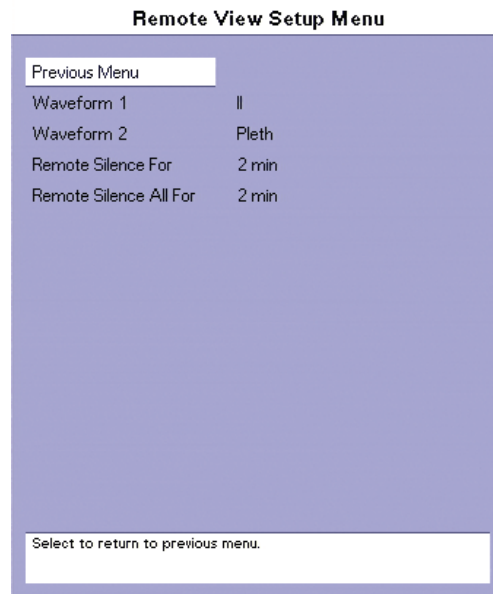

FIGURE 3-3 Remote View Setup Menu
- 3. Setup** — this selection opens the **Remote View Setup Menu** shown in FIGURE 3-3. This menu enables the user to configure the display and functionality of the **Remote View Menu**.